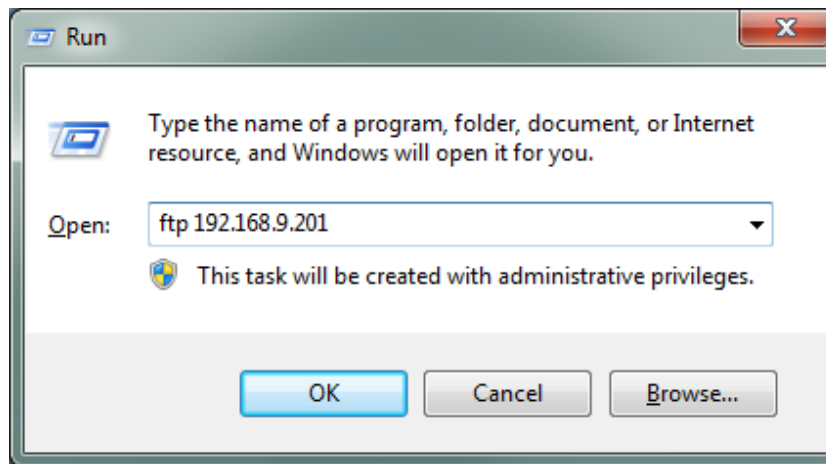

Figure 6-5: Run Window for FTP Access
2. FTP into the card using the following command. Replace 192.168.8.9 with the unique IP of your device as shown in Figure 6-5. Login as user **root** and Password **evertz**.